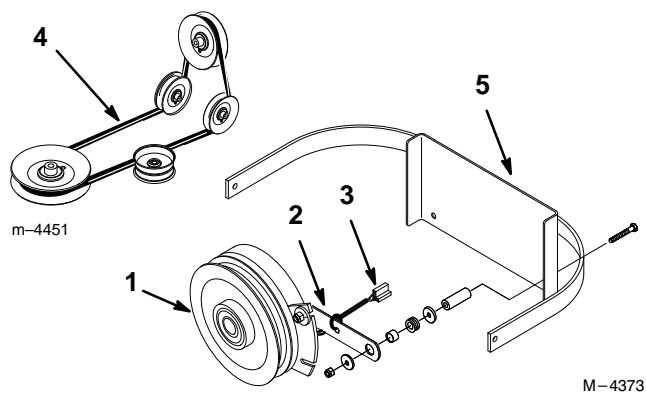

Figure 1
2. Remove the clutch retaining strap from machine frame and unplug clutch terminal from wire harness (Fig. 1).
3. Remove the drive belt (Fig. 1).